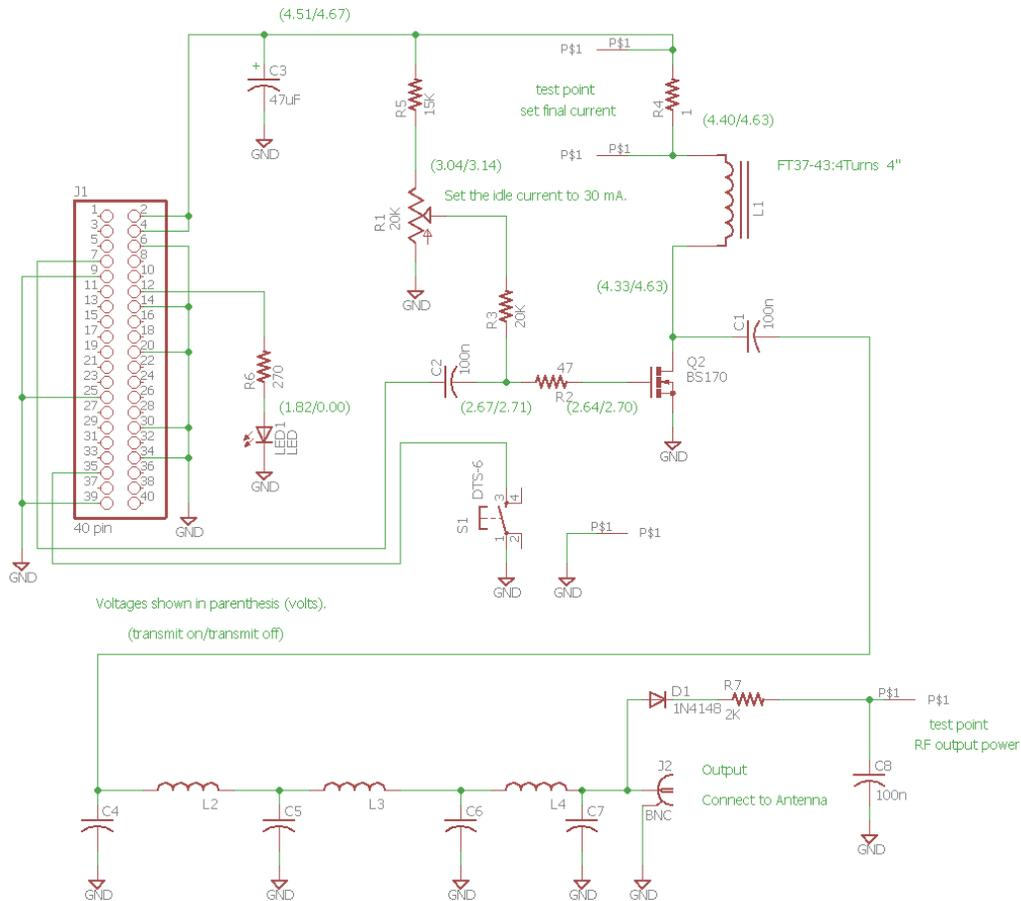

Figure 9: VW Schematic
The VW schematic is shown in Figure 9: VW Schematic.
10. Measure idle current with a VOM. This is the current across R4 (1 ohm resistor). Connect positive probe to the *Vcc* test point and the negative probe to the *Current* test point (see Figure 9) This should be ~20 mV when not transmitting and ~70-80 mV when transmitting, corresponding to ~20 mA and ~70-80 mA.
15. Using the scope, measure the voltage coming out of the Pi. This is between pin 7 and GND (see Figure 2). Of course, the probe goes to pin 7. When transmitting, you should see a square wave ~3.5 Vp-p. 4. If you've got a signal coming out of the Pi (pin 7 measurement), then then next thing to check is the output before the low pass filter (left side of L3, see Figure 9). This should be a square wave ~3 Vp-p. If all else fails, send me an email (Bruce Raymond, nd8i@tapr.org). I'm happy to help.